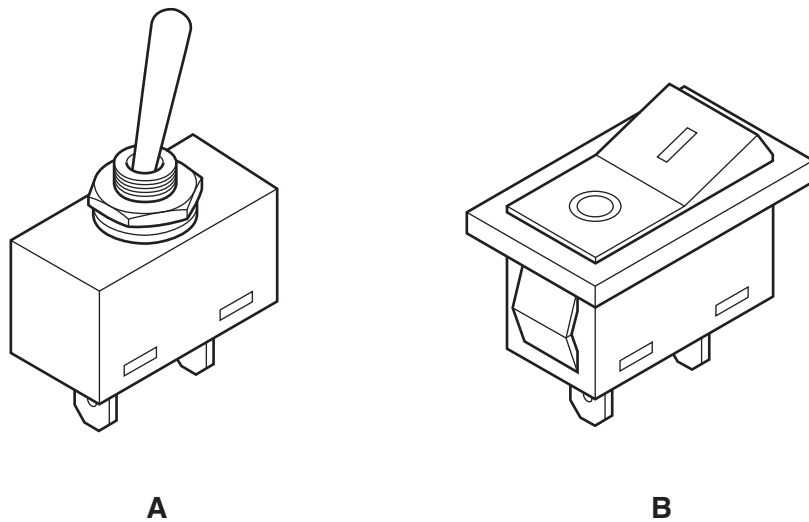

Fig. 9
- (b) Fig. 9 shows two types of on/off switch that could be used in a product.